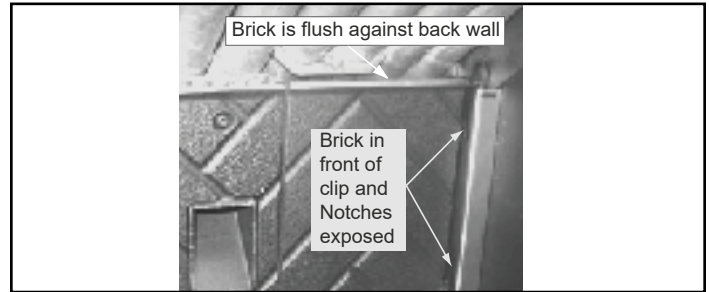
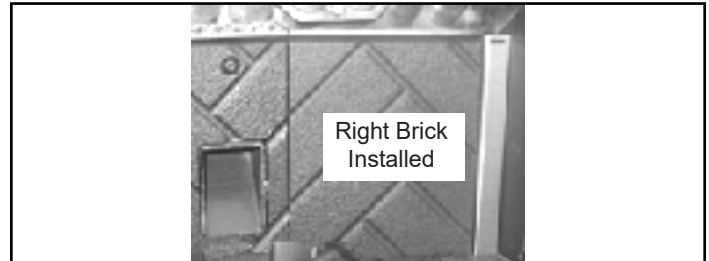

Figure 27.4
Figure 27.5
3. Reinstall bricks in reverse order ensuring that the bricks are flush against the back wall of the firebox (**Figure 27.4** and **Figure 27.5**).